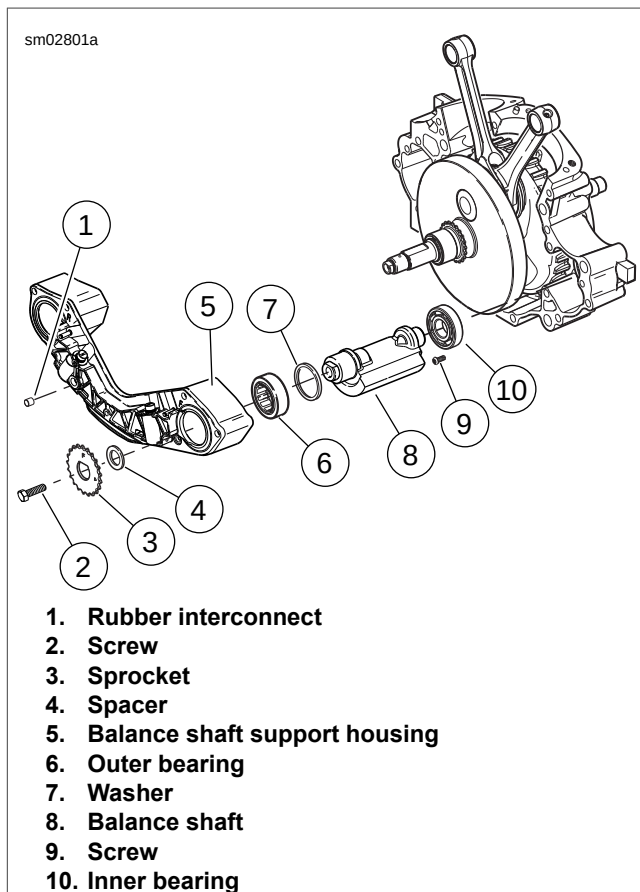

Figure 3-130. Balance Shaft Assembly (Front Balance Assembly Shown)
11. See Figure 3-130. Remove balance shaft support housing (5) from left crankcase half.
- a. See 3.28 COUNTERBALANCER ASSEMBLY REPAIR for balance shaft support assembly and outer bearings (6).